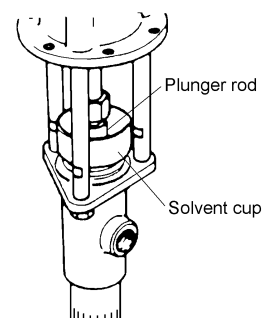

Fig. 4
The pump is equipped with the solvent cup. To protect the plunger rod and packing from damage caused by dried and stiffed pumping material, pour solvent or suitable lubricant to 2/3 level of the cup. (Fig. 4)
- After completion of the work or when the pump is not operated for a long time, keep the plunger rod bottom position and soaked into the solvent cup to prevent damage on the packing by dried material that stuck on the plunger rod. (Fig. 4)